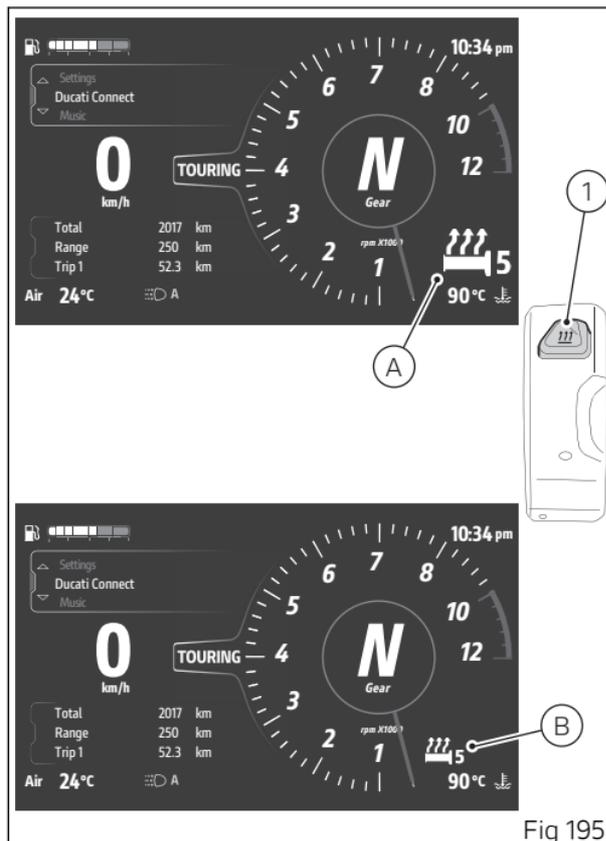

Fig 195
Press button (1 Fig 195) to display the screen dedicated to selecting the heating levels for the handgrips (I) and rider seat (J). When entering this screen the selection is active on the heating levels of the handgrips (I). Using the joystick ◀ and ▶ it is possible to move the selection between the handgrips and the rider seat.
- Press button (1, Fig 195) to activate the dedicated screen.
- Use the joystick ► to move the selection to the rider seat heating levels (J).
If both heated handgrips and rider seat are installed, long pressing button (1 Fig 195) switches the heating on/off with the last settings selected during last use.